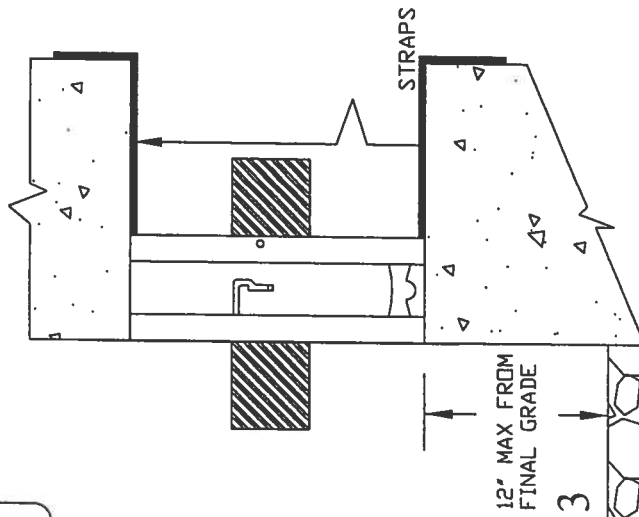

FIGURE 3
6. Insert the vent frame in the cut opening. The bent strap ends go in then up behind the inside of the wall. Push the frame tight against the face of the wall. Ensure the frame is flush and square in the opening. (FIG. 3)